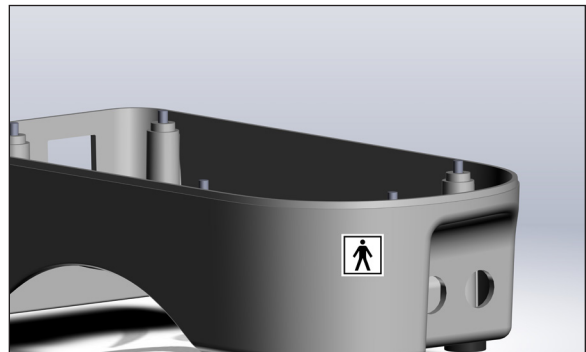

Figure 34 - Step 2 Apply the BF label
2. Install BF applied part label next to the quick disconnect couplings (Figure 34).